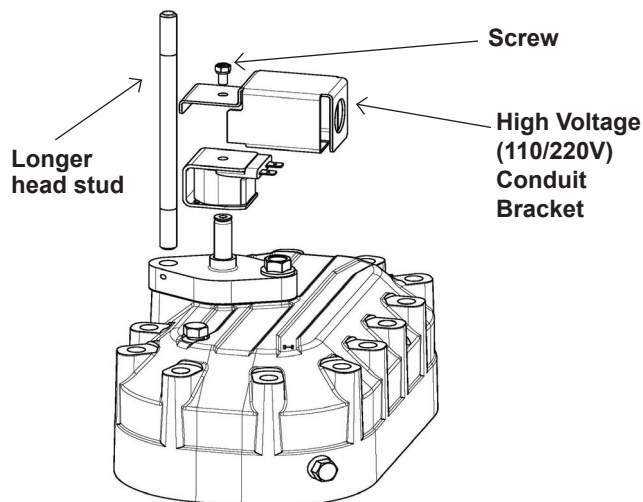

Figure 8 – Solenoid coil assembly including bracket
24. Install Discus Digital™ solenoid coil, solenoid bracket², and conduit² on solenoid valve stem². Make sure to choose correct voltage solenoid coil. See **Figure 8**.